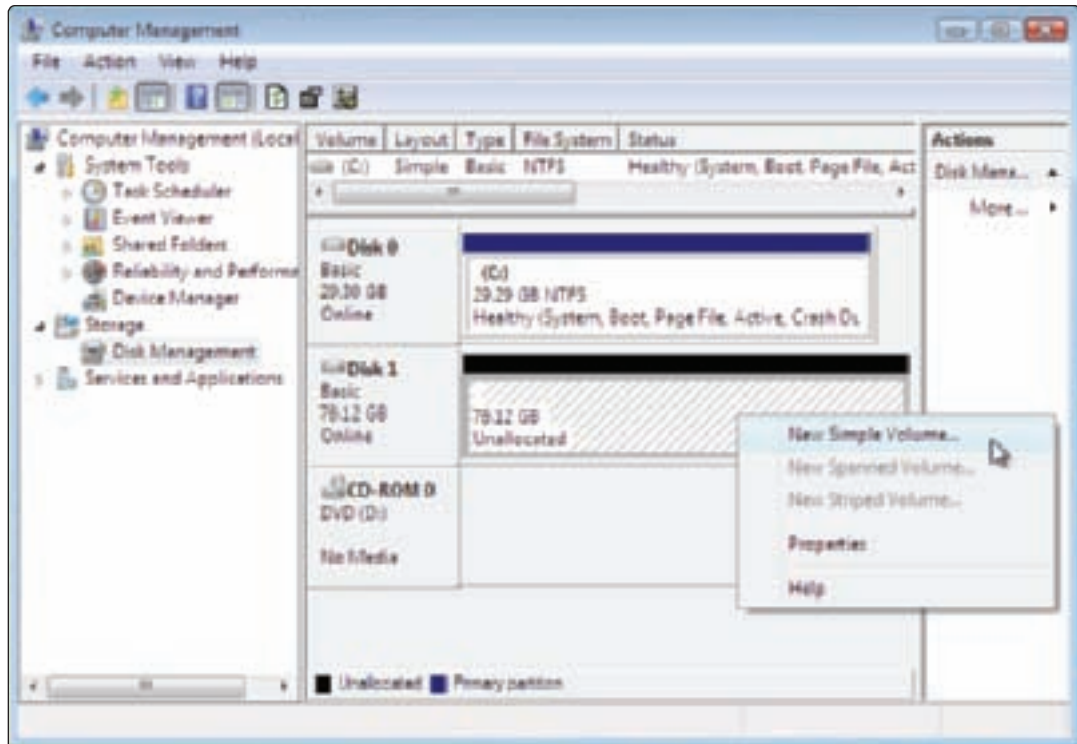

Figure 8-30 Simple volumes are created on basic disks
5. To format the drive, right-click the unallocated space on the drive and select **New Simple Volume** from the shortcut menu (see Figure 8-30). The New Simple Volume